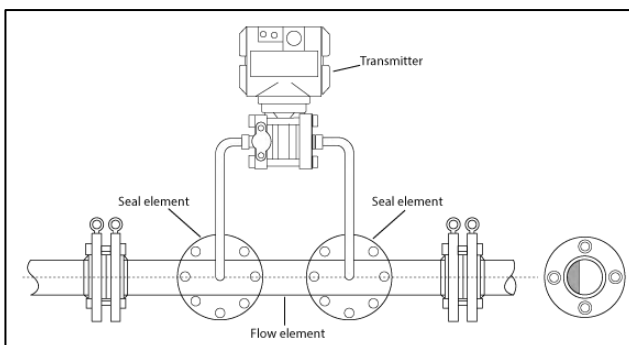

Fig 8: Horizontal Installation
- Generally, the horizontal orientation of the flow element with the impulse tap positioning situated between 45 to 90 degrees from a vertical centerline of the impulse tap component(s) is recommended. This method of horizontal mounting allows for free passage of most solids and helps to eliminate air entrapment at the transmitter connection in liquid operation. See Figure 8.